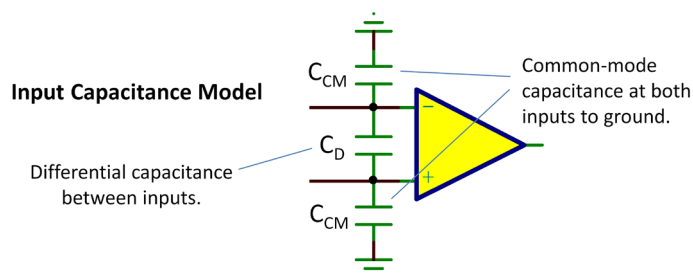

Figure 40: Input capacitance modeled as common-mode capacitance from each input to ground and differential capacitance between the inputs.
Input capacitance is modeled as common-mode capacitance from each input to ground and differential capacitance between the inputs; see Figure 40. Though there is no ground connection on an op amp with dual supply voltages, consider the common-mode capacitances as being connected to the V– supply terminal, the alternating current (AC) equivalent of ground.